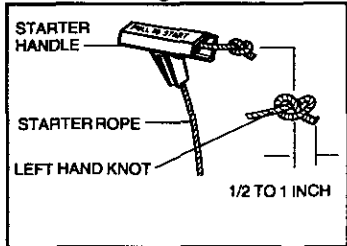

Figure 5
- C. Feed starter rope through starter handle (see Figure 5) and tie a left hand knot, leaving 1/2 inch to 1 inch of starter rope extending beyond left hand knot. **DO NOT PULL LEFT HAND KNOT INTO STARTER HANDLE YET.**